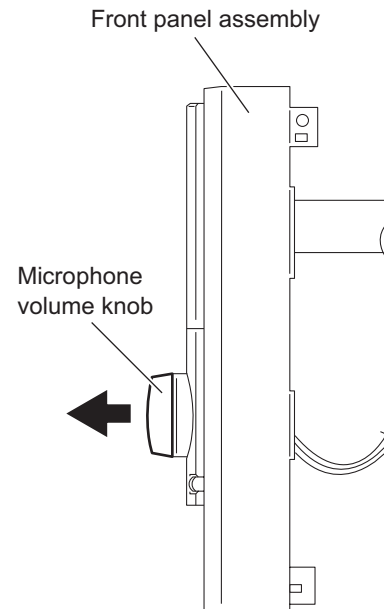

Fig.27
3.1.17 Removing the switch board (See Figs.27 and 28)
- (1) From the front side of the front panel assembly, pull out the volume knob in to the direction of the arrow. (See Fig.27.)